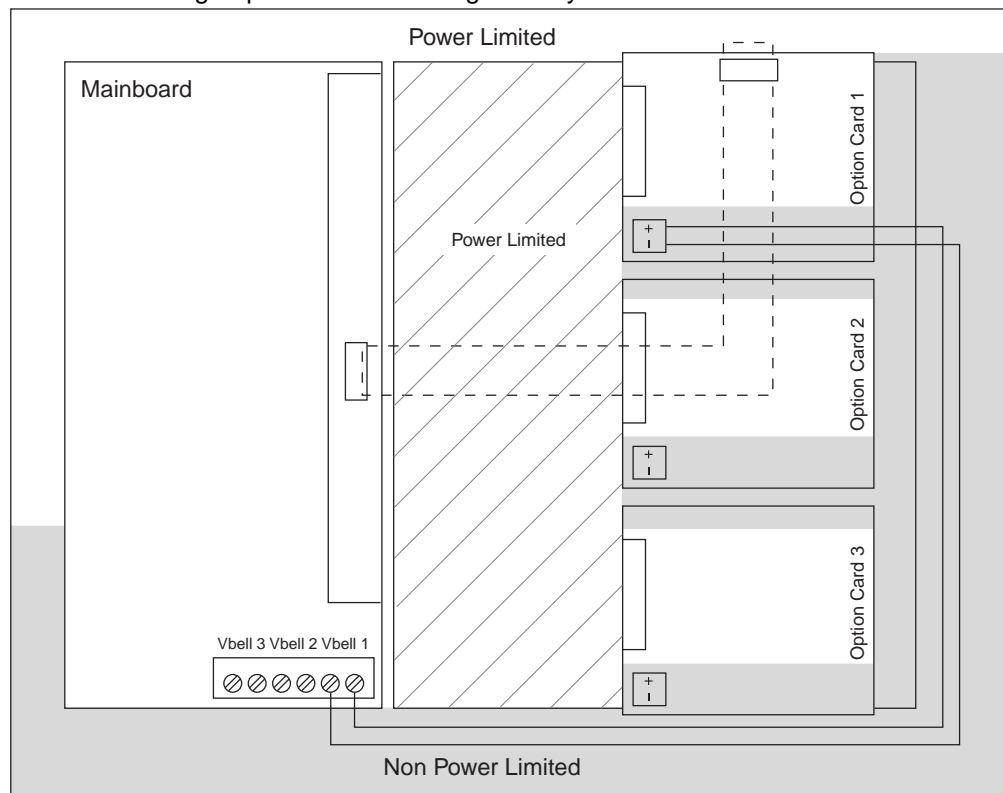
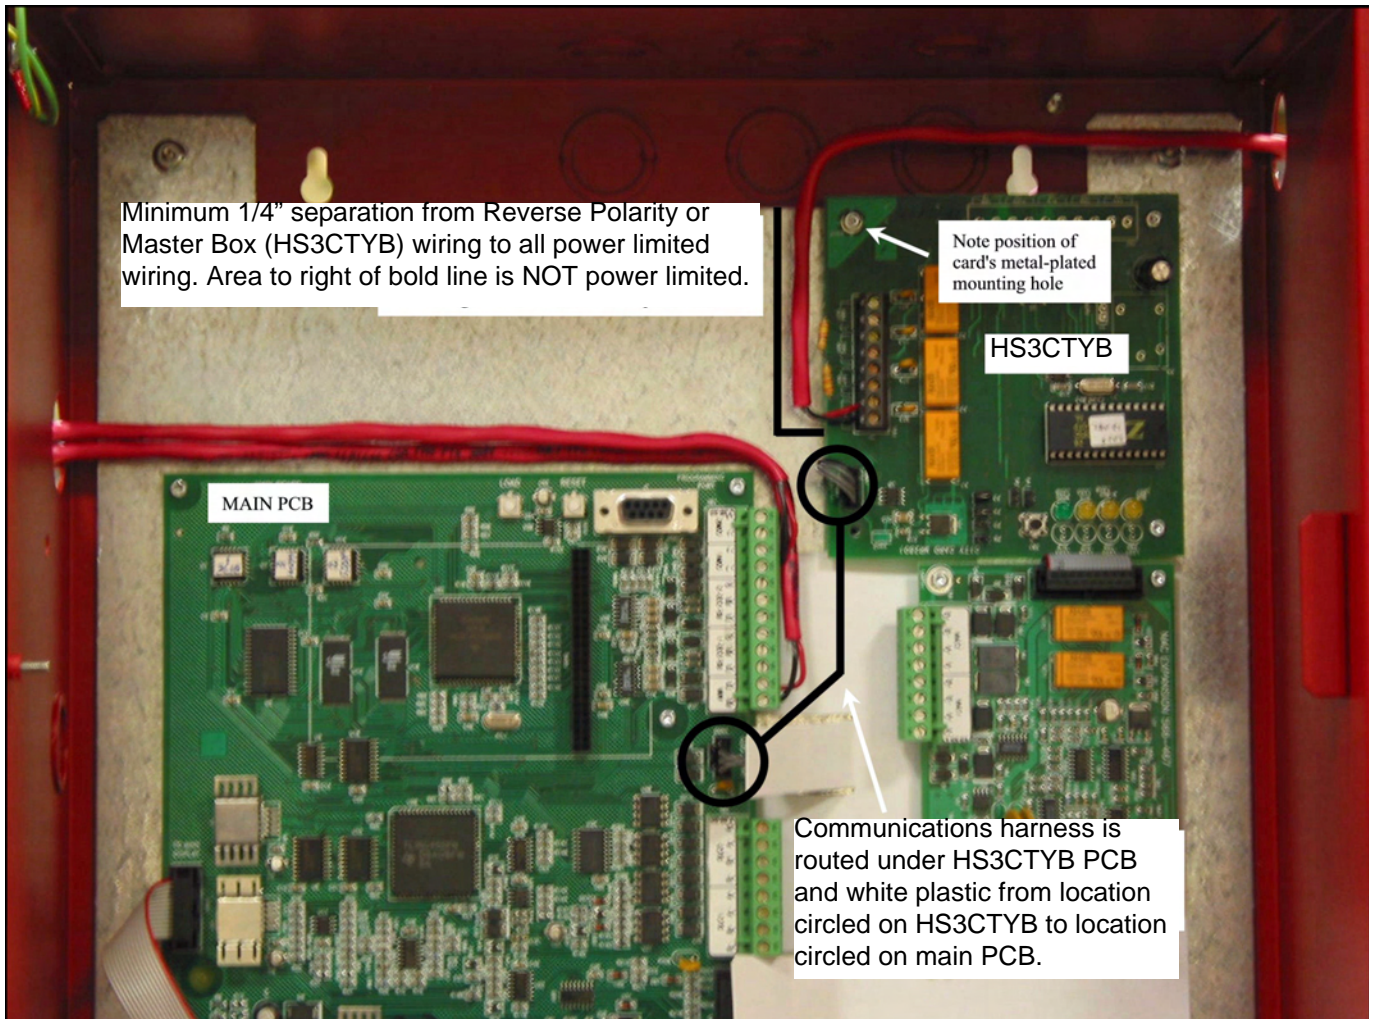

Figure 2: Power Limited Wiring Diagram
Figure 3: Power Limited Wiring, City Module
- Figure 2 shows the areas of the cabinet in which power limited/non-power limited wiring may be routed. Note that the location labeled Option Card 1 is not for the City (HSCTYB). There is a location above Option Card 1 that is used for this card. Figure 3 shows the routing of power limited wiring to a city module.